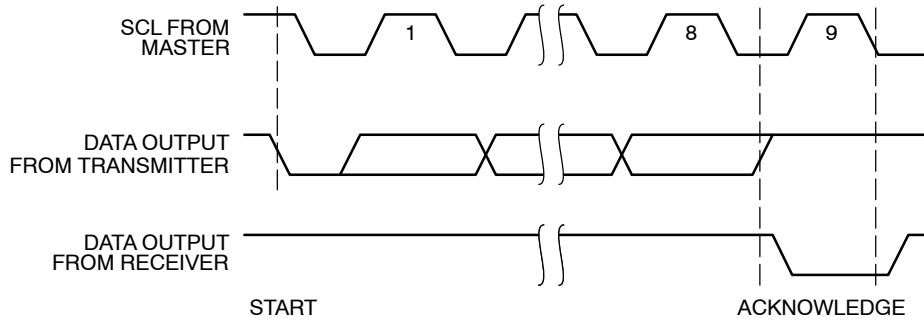
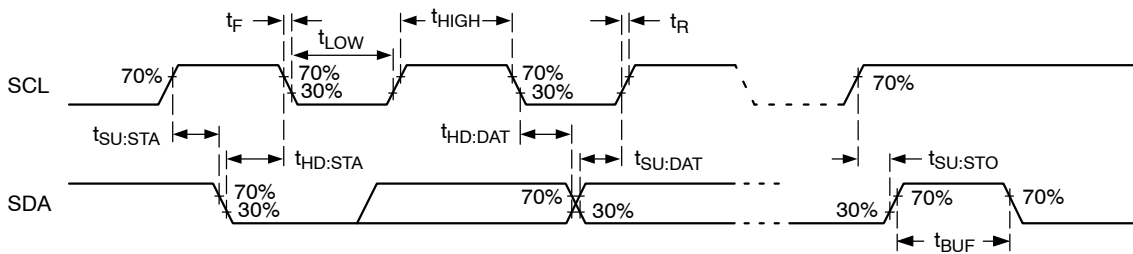

Figure 22. Acknowledge Timing
Figure 23. Bus Timing
4. Timing reference points are set at 30%, respectively 70% of  $V_{CC}$ , as illustrated in Figure 23. Bus loading must be such as to allow meeting the  $V_{IL}$ ,  $V_{OL}$  as well as the various timing limits.
A matching Slave address is acknowledged (ACK) by the Slave by pulling down the SDA line during the 9th clock cycle (Figure 22). After that, the Slave will acknowledge all data bytes sent to the bus by the Master. When the Slave is the transmitter, the Master will in turn acknowledge data bytes in the 9th clock cycle. The Slave will stop transmitting after the Master does not respond with acknowledge (NoACK) and then issues a STOP. Bus timing is illustrated in Figure 23.